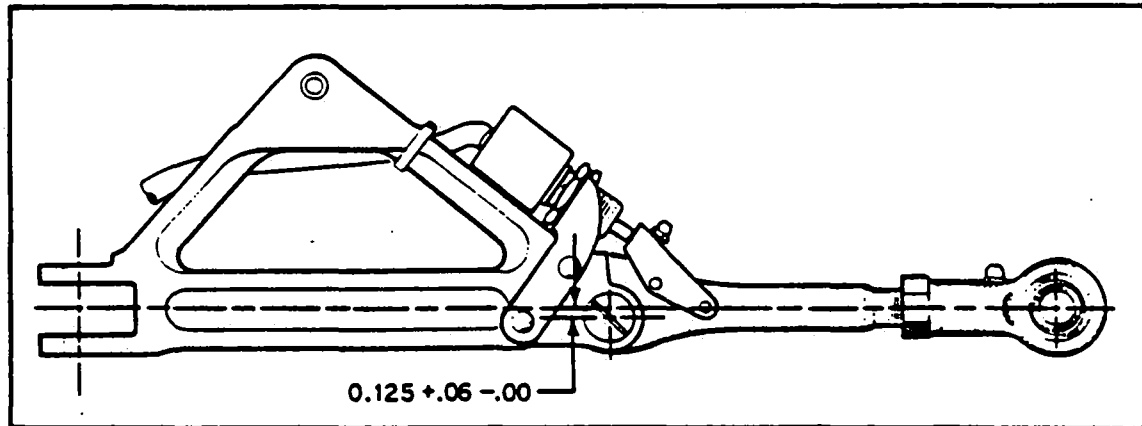

Figure 7-8a. Main Gear Side Brace Link Travel
7. Check side brace link through center travel by attaching the upper and lower links, setting them on a surface table, and ascertaining that when the stop surfaces of the two links touch, linkage is not more than 0.125 of an inch  $+.06/-.00$  through center. Should the distance exceed the required through center travel and bolt and bushings are tight, replace one or both links. (Refer to Figure 7-8A.)